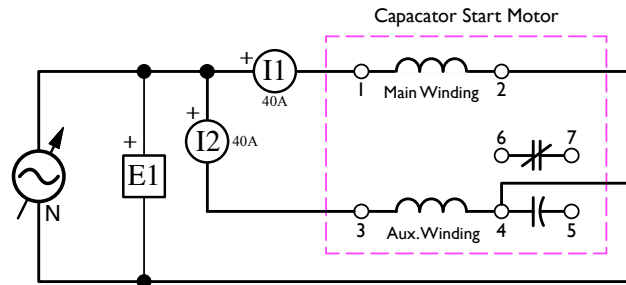

Figure 4.17: Capacitor Start Motor – Main and Auxiliary Winding
- 39. **Turn off the power supply** and set the voltage control knob to zero. Connect the auxiliary winding of the Capacitor-Start Motor as shown in Figure 4.17.